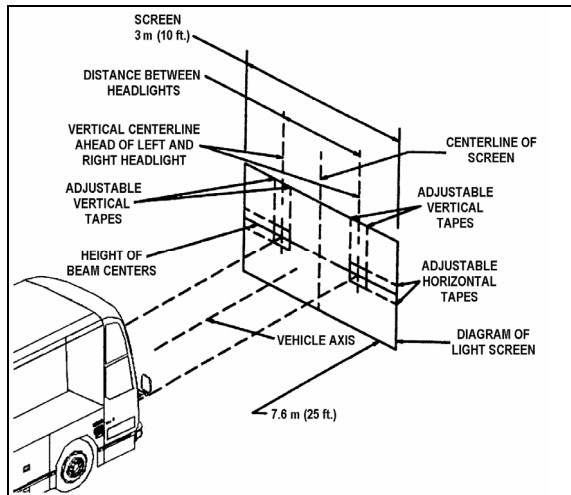

FIGURE 29: ALIGNMENT OF HEADLIGHT AIMING SCREEN 06502
3. The headlight centerlines shall be spaced either side of the fixed centerline on the screen by $\frac{1}{2}$ the lateral distance between the light source centers of the pertinent headlights. The horizontal tapes should be located on the screen at the upper and lower limits called for in the specification with reference to the height of beam centers and the plane on which the vehicle rests, not the floor on which the screen rests (Fig. 29).